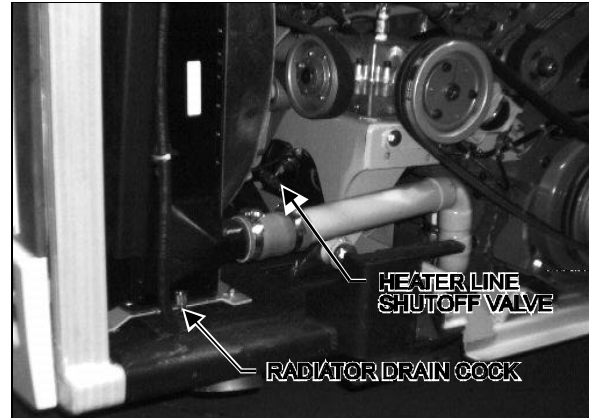
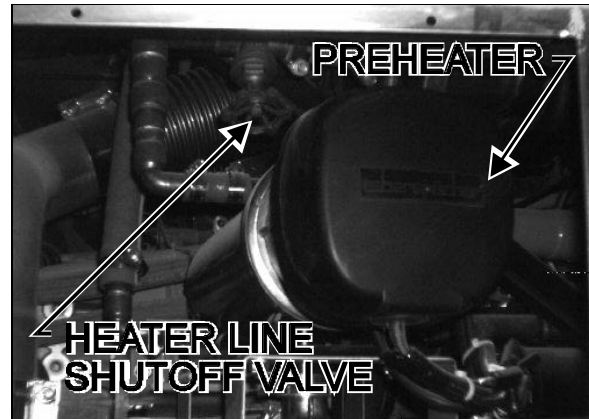

FIGURE 5: ENGINE COMPARTMENT 05025
FIGURE 6: REAR ELECTRIC COMPARTMENT 05026
1. Stop engine and allow engine fin to cool. Close both heater line shutoff valves. One located in the engine compartment under the radiator fan gearbox (Fig. 5). The other heater line shutoff valve is located in the L.H. rear electric compartment (near the preheater, see Fig. 6). Refer to Section 22, Preheating System, to gain access to the preheater and the heater line shutoff valve .
7. Open the radiator drain cock (Fig. 5).